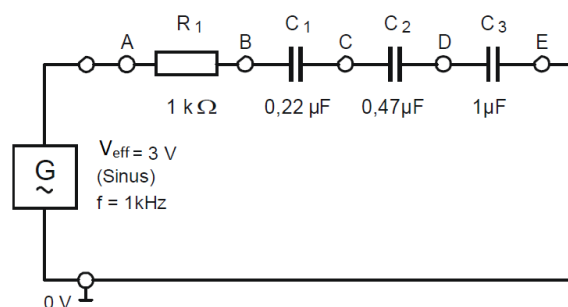

Figure 9
- 9) Connect the circuit as shown in **Figure 9**.